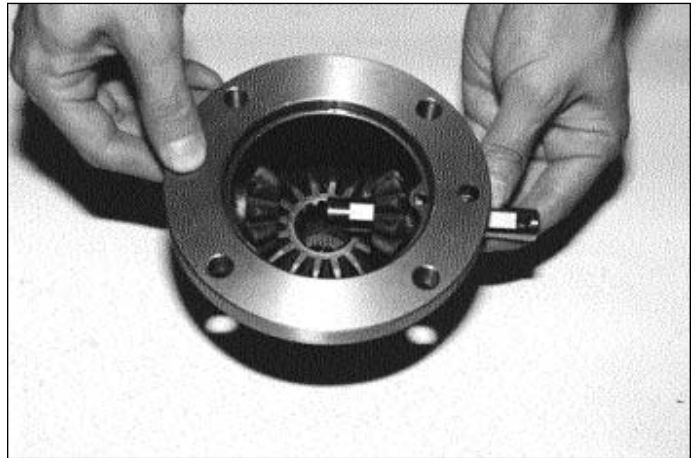

**Figure 38 - Center Shaft Assembly**
5. Apply moly grease to bore of two center shaft gears. Slide two gears, clutch collar and spacers onto center shaft and then press two bearings (6204 & 6304) onto shaft using an arbor press. Use new bearings, refer to Figure 38 to verify correct order of assembly.
Install the fork so it is centered over the bearing in the gear case. Adjust the keeper plate to limit the end play of the governor shaft to less than 0.5mm. See Figure 38.